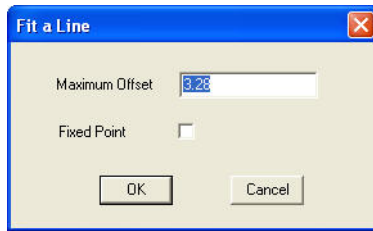

Figure 9-34. Fit a Line
2. Select the points in which you want to fit the line, and press **Esc**. The *Fit a Line* dialog box appears (Figure 9-34).